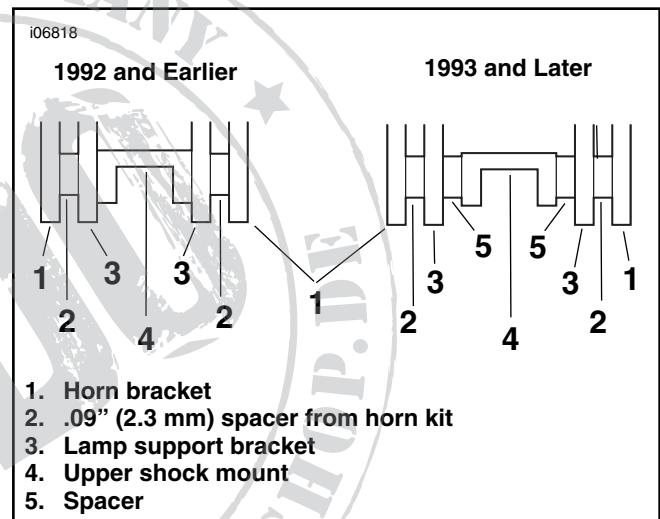

Figure 3. Auxiliary Lamps and Horn Combination
**For the combination of support bracket and horn:** See Figure 3.